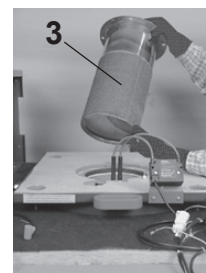

Fig. 26
10. Remove the burner cylinder upwards (3, Fig. 26).